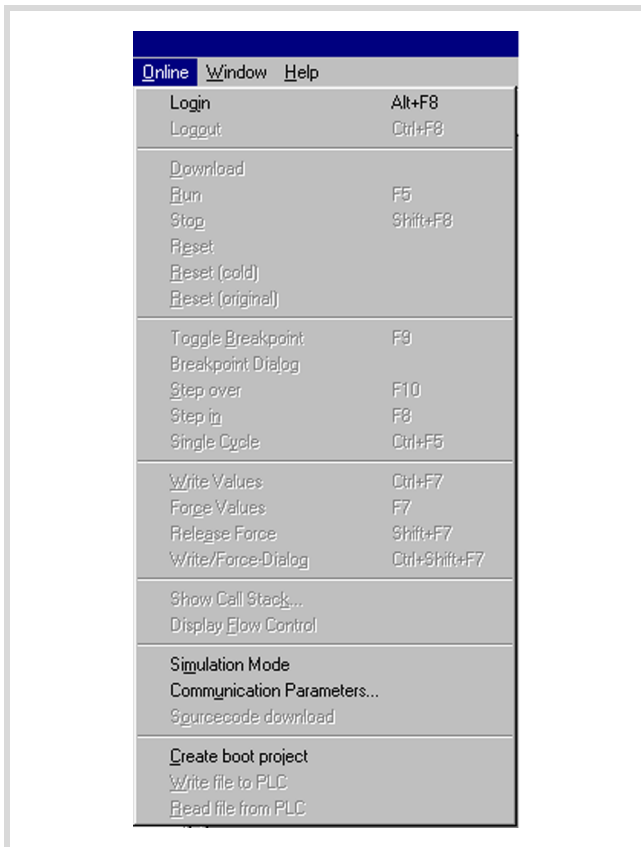

Figure 9: Menu "Online"
- Select the menu <Online → Communication parameters> (→ figure 9).
- Select the menu <Online → Start> (→ figure 9). This puts the controller into the RUN mode.